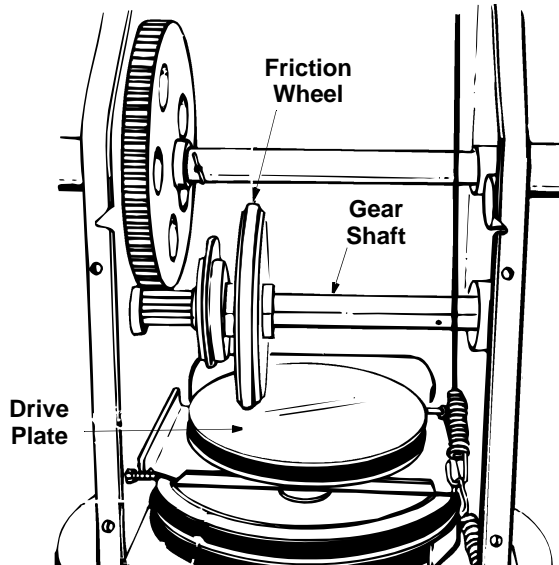

Figure 26
4. With the traction drive clutch engaged, check if the friction wheel is contacting the drive plate. See Figure 26.